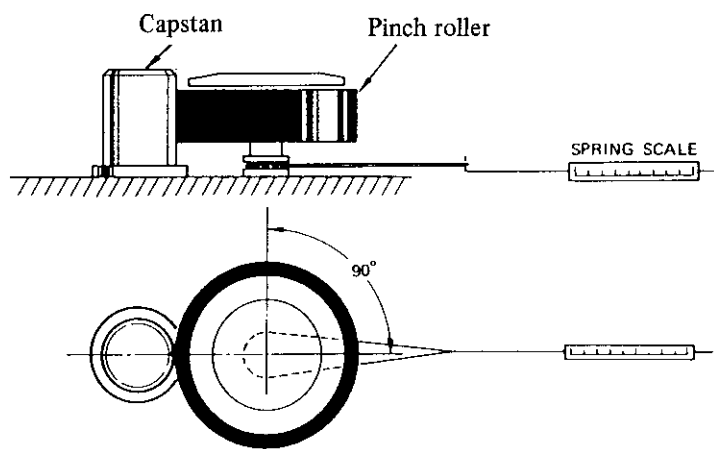

Fig. 4.7
- 3) Put the R8 in the PLAY mode, and positioning the scale as illustrated, slowly draw it in the direction opposite the capstan until the pinch roller stops rotating as shown in the Fig. 4.7.